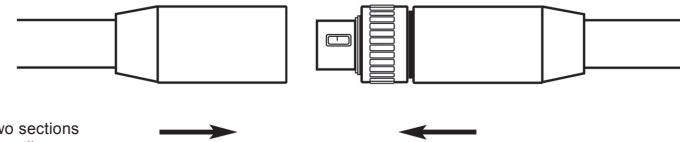

Figure 1-D
4. Now, take the two PianoMic telescoping sections and mate the connectors just like you would mate a standard XLR connector (see Fig. 1-D). First mate the keyways and then push the connectors together until you hear a “click.” If you do not hear a click, then change the position of the rotating collar and try to mate the two sections again.